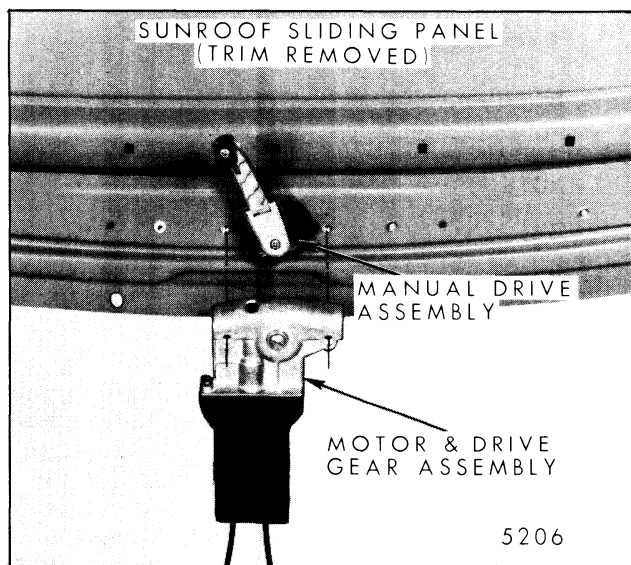

Fig. 8-45-Manual and Power Drive Oriented (Module Removed from Vehicle)
The power operated sunroof is driven by a 12-volt reversible motor with an integral gear drive mechanism. Both power operated and manual drive gear assemblies are mounted near the center of the windshield header forward of the sunroof opening (Fig. 8-45). The drive assembly (powered or manual) then
8. Remove motor and drive gear assembly (2 attaching bolts) (Fig. 8-45).
4. Remove manual drive assembly (2 attaching bolts) (Fig. 8-45).